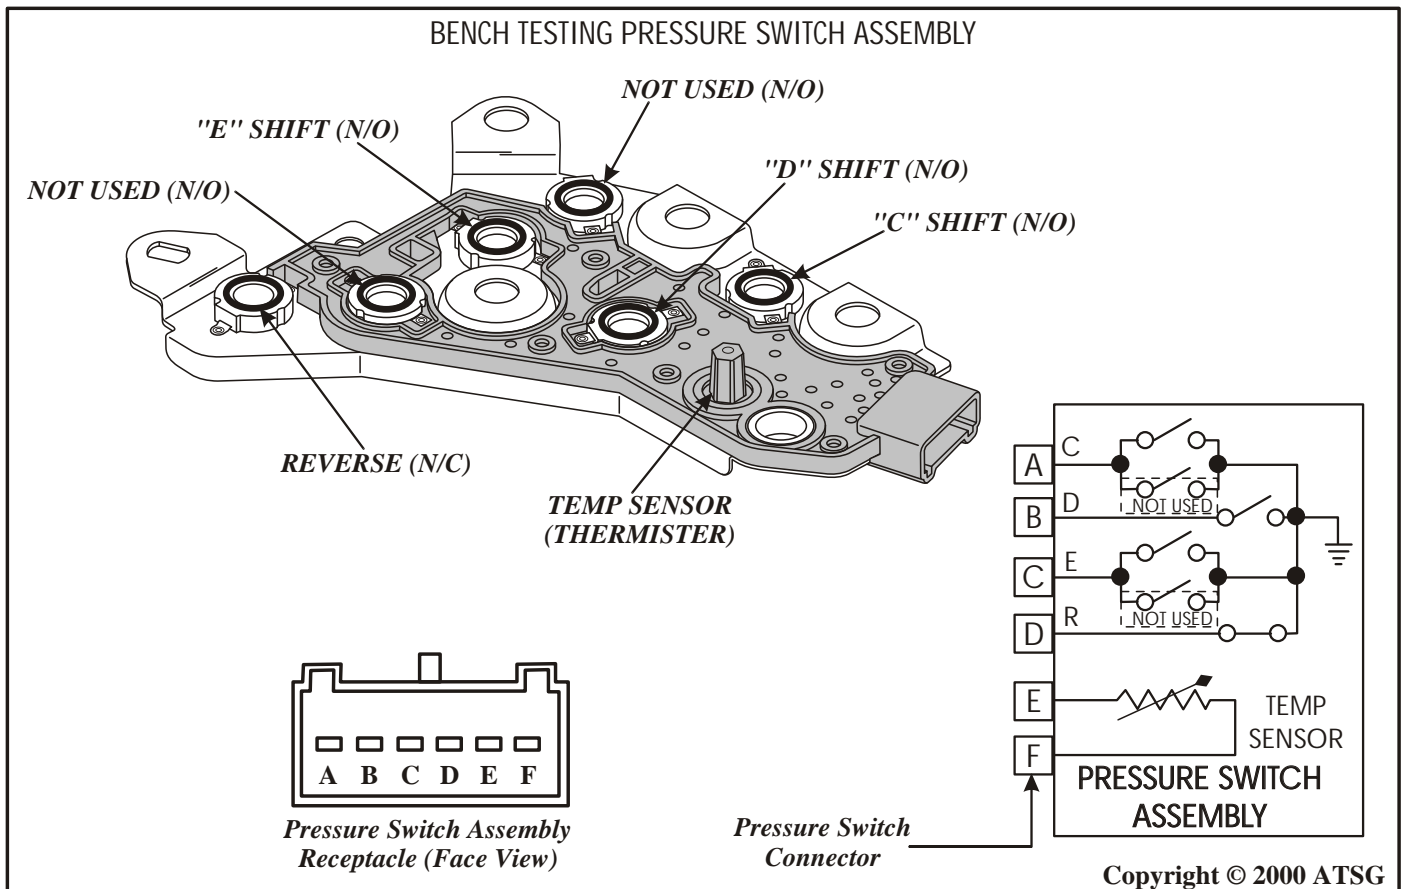

Figure 130
20. Inspect the pressure switch assembly to verify the condition and location of the "O" rings on the back side (See Figure 130).
21. One of the six switches in the pressure switch assembly is Normally Closed (N/C) and the other five are Normally Open (N/O), as shown in Figure 130.
Note: Notice that two of the N.O. switches are not used in this unit (See Figure 130).
22. Check the operation of all switches with your DVOM with the leads placed on the pins on each side of each switch (See Figure 130).